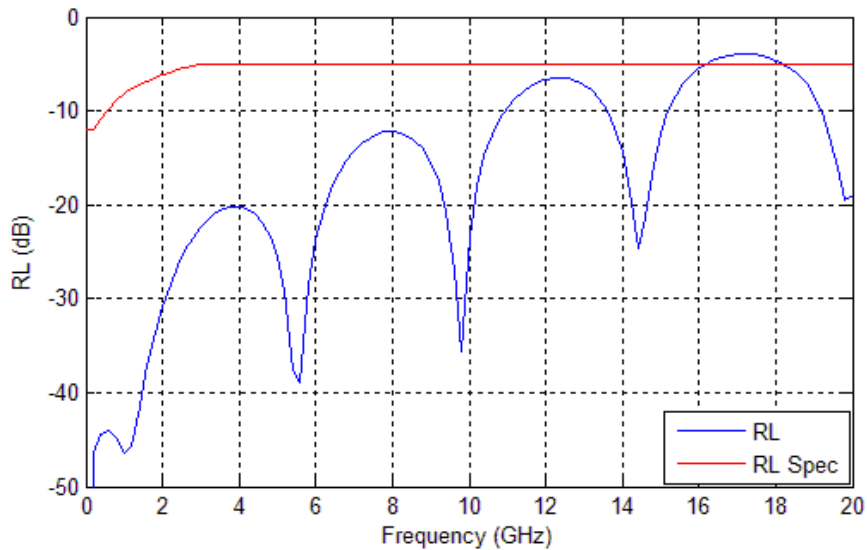
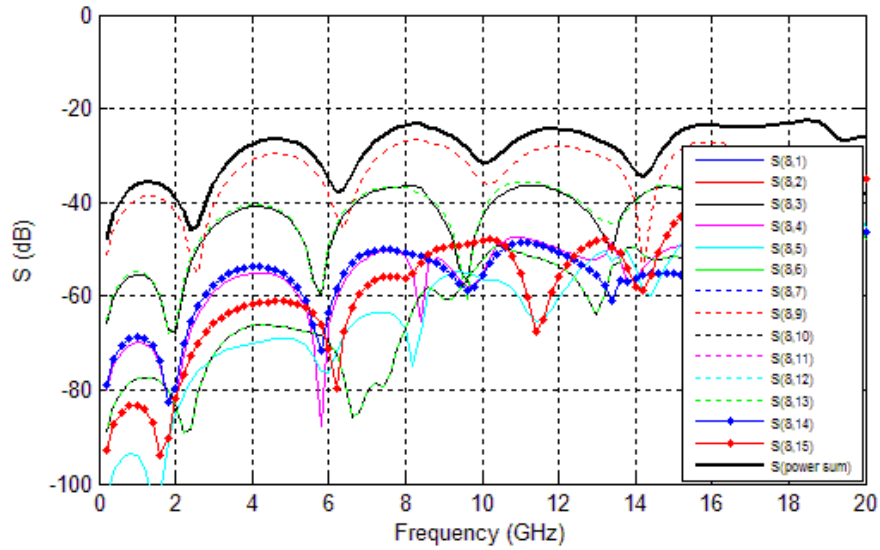
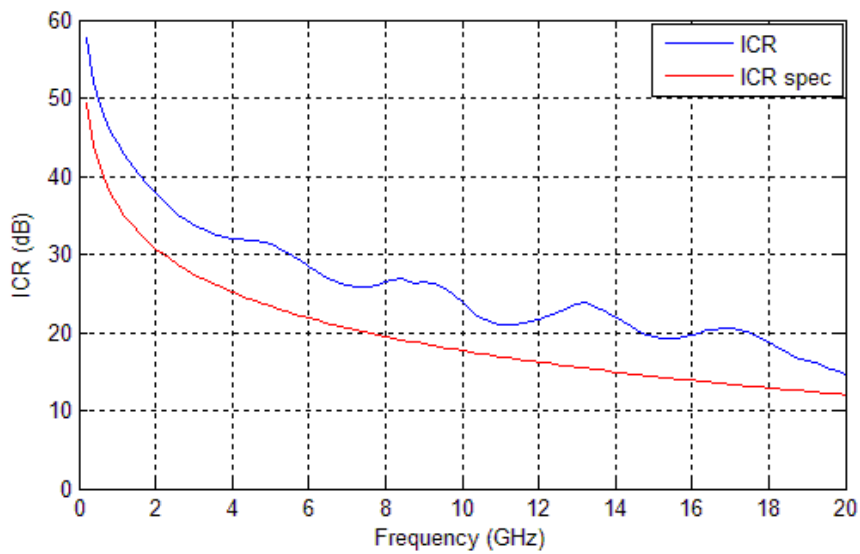

Figure 7 RL profile for pair 8 of connector only
Figure 8 Power Sum of NEXT for pair 8 of connector only
Figure 11 ICR profile of FEXT for pair 8 of connector only
The impedance and trace delay values for each of the 15 differential pairs are shown in Table 2. Figure 7 shows the return loss (RL) comparison with the IEEE802.3ap spec for the center pair 8. Figure 8 - Figure 11 show the power sum and insertion-to-crosstalk ratio (ICR) profile comparison with the IEEE802.3ap spec of NEXT and FEXT respectively.